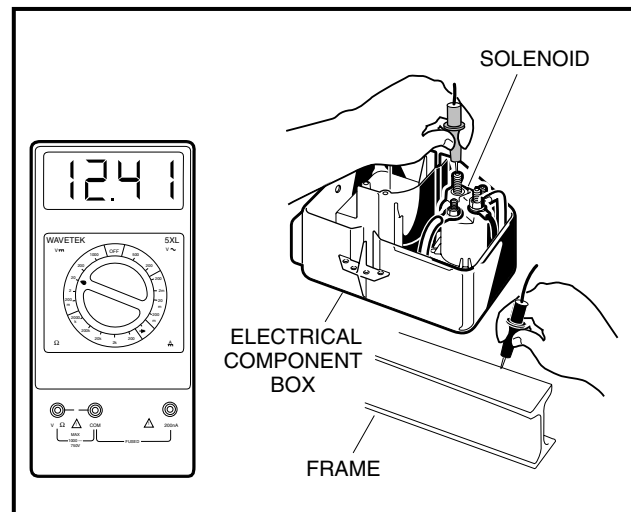

Figure 11-32 Test Solenoid Ground
10. With the Forward/Reverse handle still in NEUTRAL, set the multimeter to 20 volts DC and place the red (+) probe on the large post that does *not* have wires connected to it. Place the black (–) probe on the vehicle frame. Turn key switch to the START position and listen for the solenoid click. While holding the key in the START position, the meter should read full battery voltage. If the reading is incorrect, replace the solenoid (**Figure 11-32, Page 11-27**).